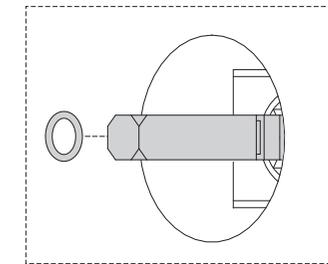

Figure 5.
- 6.2. Roll rubber stopper over opposite end until it locates within the groove. (Figure 5)